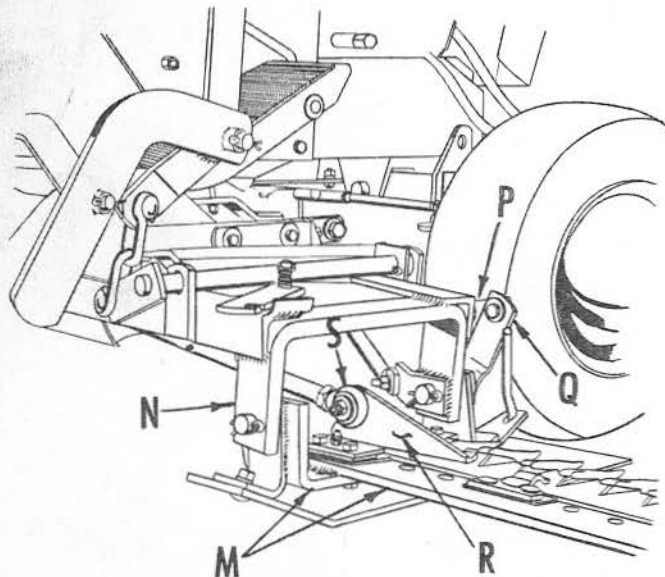

FIG. 5
6. Slide cutter bar and mounting bracket weldment (M), into position shown in Fig. 5, beneath yoke weldment (N). Pins of mounting bracket weldment enter holes in yoke weldment. Secure with the two cotter pins shipped in bag of parts. Spread cotters.